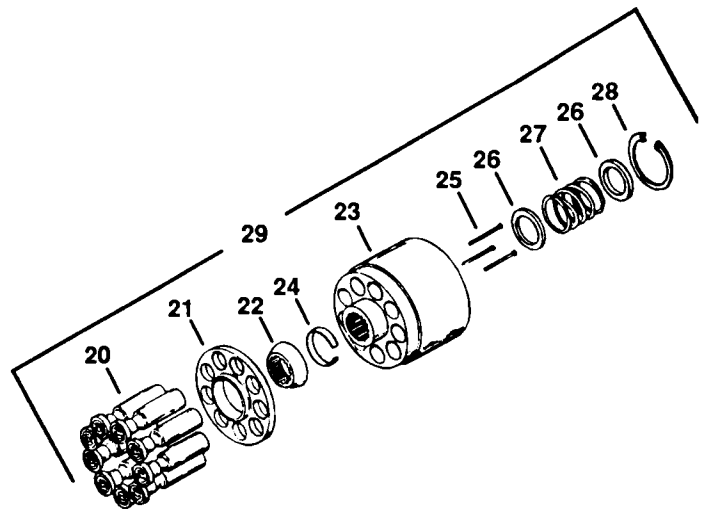

Figure 2
11 The disassembly of the piston block assembly (23) is not required unless the pins (25) or spring (27) are possibly damaged. See Figure 2.